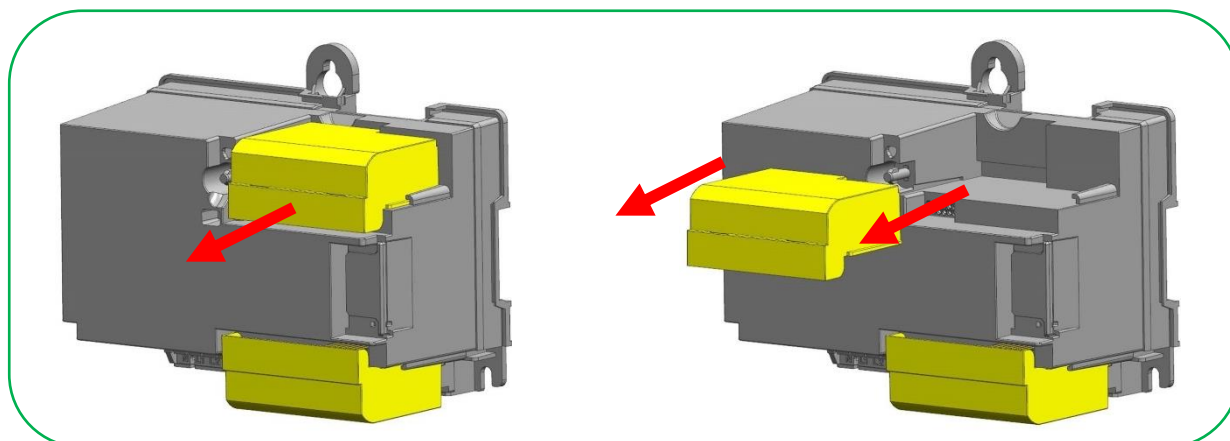
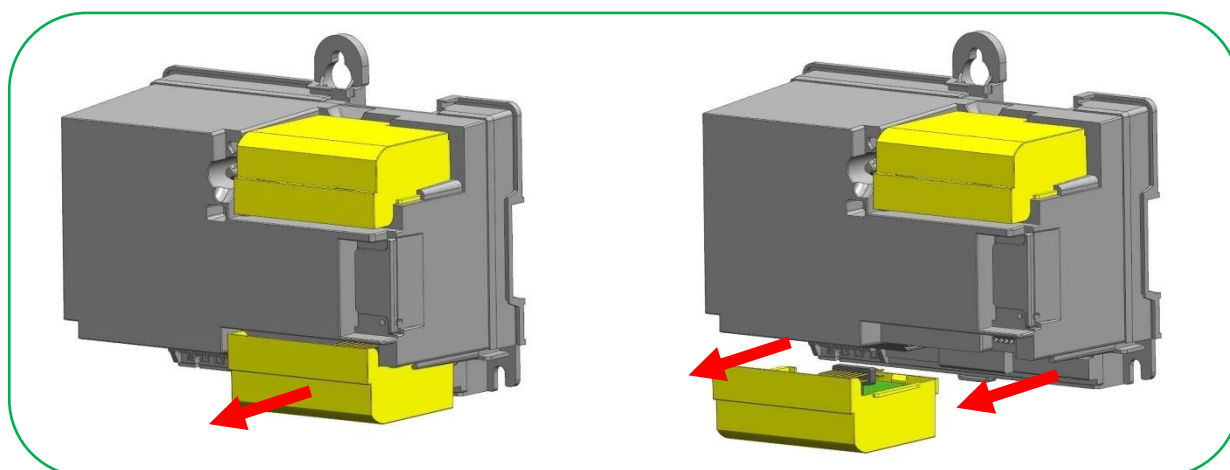

Figure 60: Removing top module
Figure 61: Removing bottom module
2. Remove a module (or both) as it is shown in Figure 60 or/and in Figure 61.